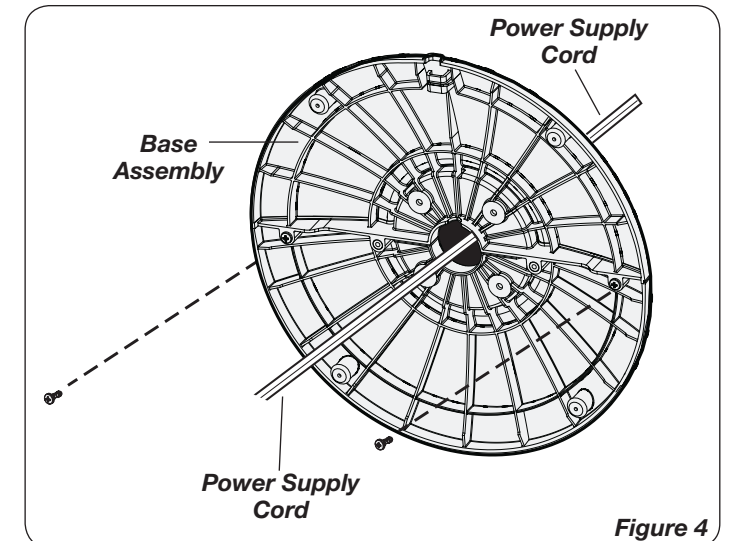

Figure 4
4. Secure the Base halves with (2) M4 X 13mm Screws. Thread the **Power Supply Cord** through the large hole in the **Base Assembly**. (Figure 4)